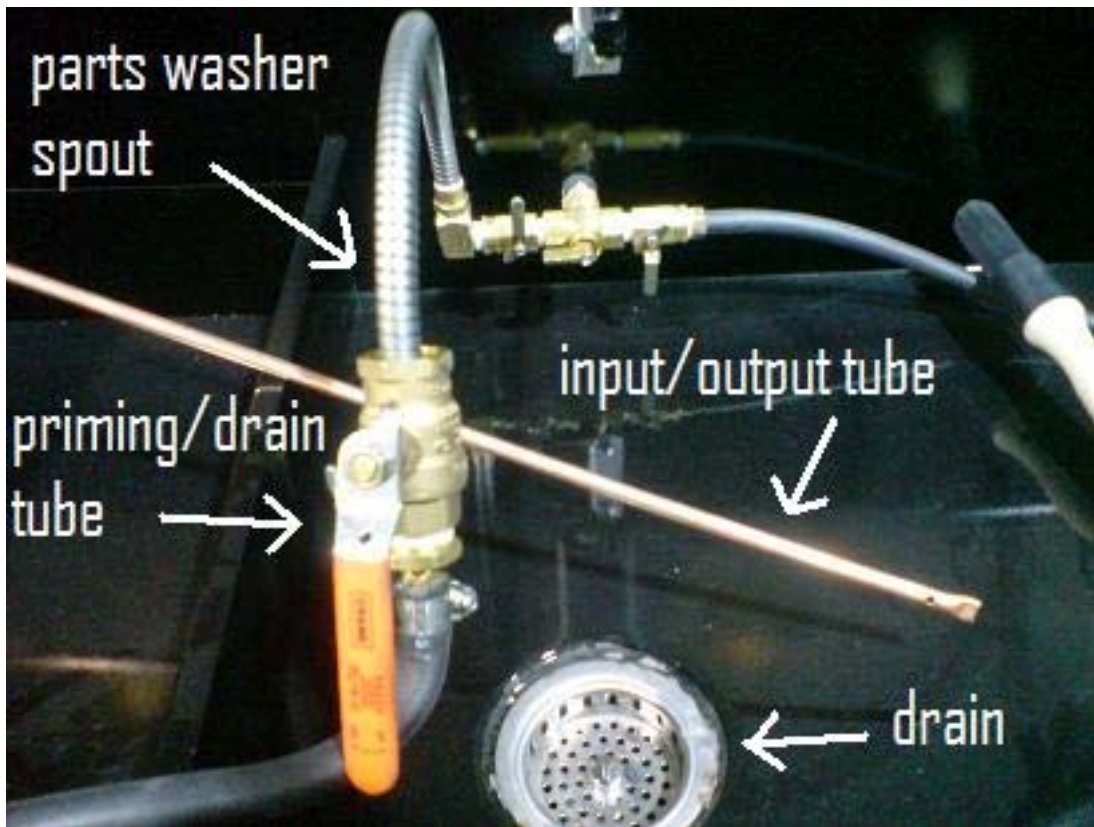

Figure 3: Parts washer spout on priming/drain tube and input/output tube inside parts washer sink
2. Place input/output tube into the parts washer sink (hose which is attached to the back of the unit) as shown in Figure 3.
3. Connect the ball valve to the parts washer spout as shown in Figure 3.